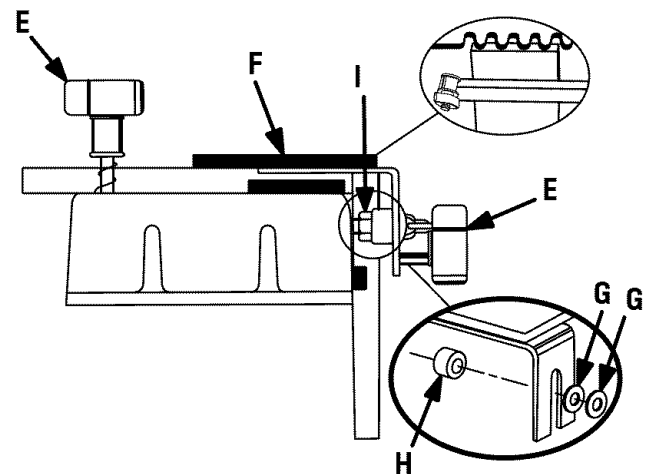

Fig. 24
The Set-Up for an Offset-Front drawer is done exactly the same as a set-up for a flush front drawer or box, page 9, with one exception. The exception being where the angle brackets of the comb-shaped template are located on the dovetail base. See Figure 8. The angle brackets of the comb-shaped template go between spacers (G) and (H). See Figure 24.
- Attach comb-shaped template (F) to the dovetail base with washers (G) and spacers (H) in their desired location. See Figure 24.
- Hold the template flat on the boards with one hand, and tighten template clamping knobs (E) securely.